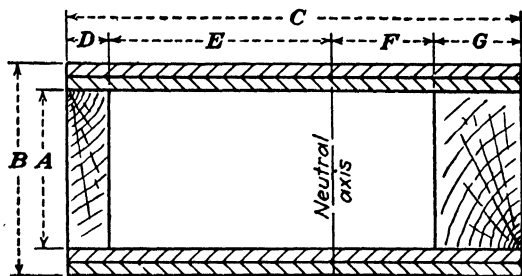

Fig. 85.—Box beam.
1. Measure to the nearest 32nd all dimensions indicated by letters in Fig. 85.
2. Calculate the cross-sectional area of the box beam shown in Fig. 85.